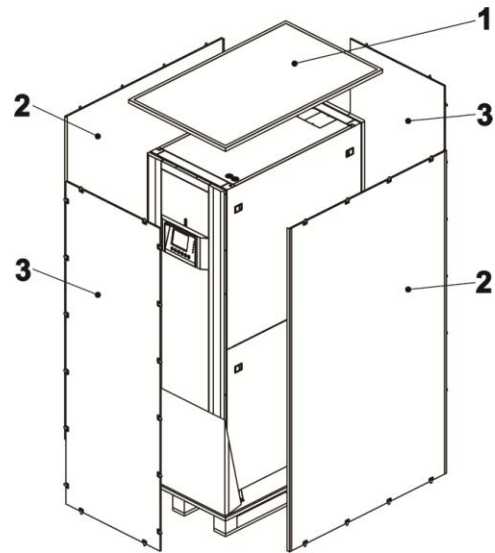

Figure 3-10
2. Please remove 5 boards in order (from 1 to 5) as shown in Figure 3-10.